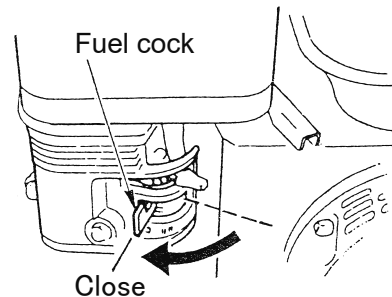

Fig. 20
3. Close the lever of the fuel cock. (Fig. 20)